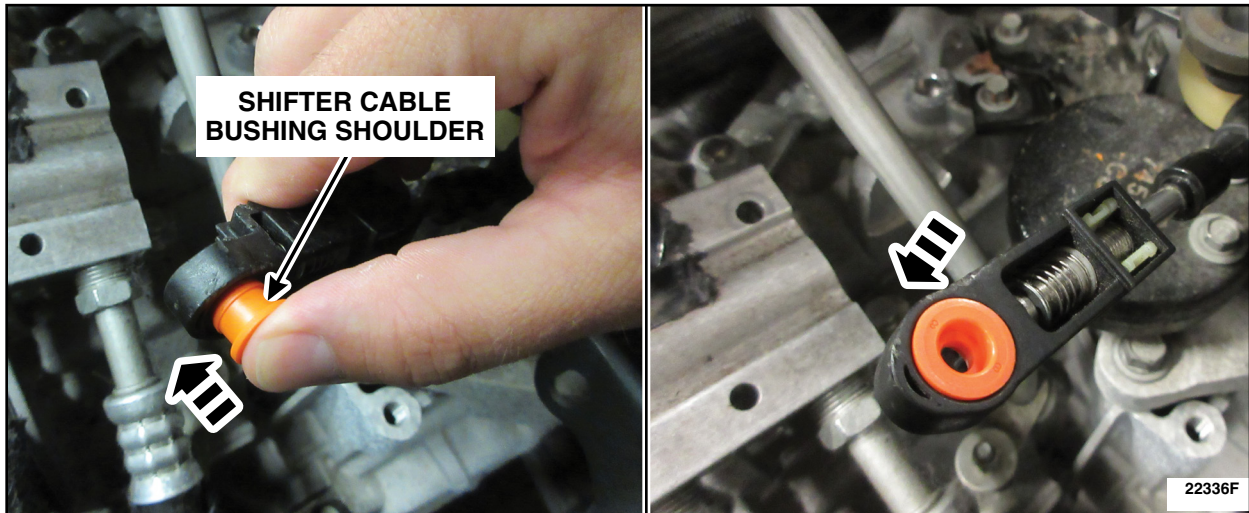

FIGURE 6
7. Using your hands only, install the *new* selector lever cable bushing. Do not use any grease to install, the bushing and cable end should be dry. See Figure 6.